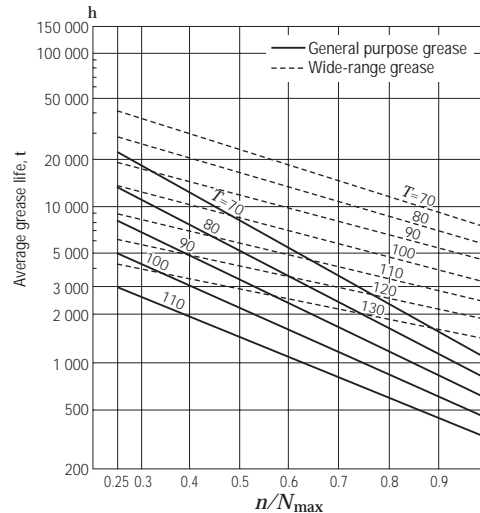

Fig. 12.3 Grease Life of Sealed Ball Bearings
(4) Grease Life of Sealed Ball Bearings
When grease is packed into single-row deep groove ball bearings, the grease life may be estimated using Equation (12.1) or (12.2) or Fig. 12.3: (General purpose grease (1))
Equations (12.1) and (12.2) and Fig. 12.3 apply under the following conditions: